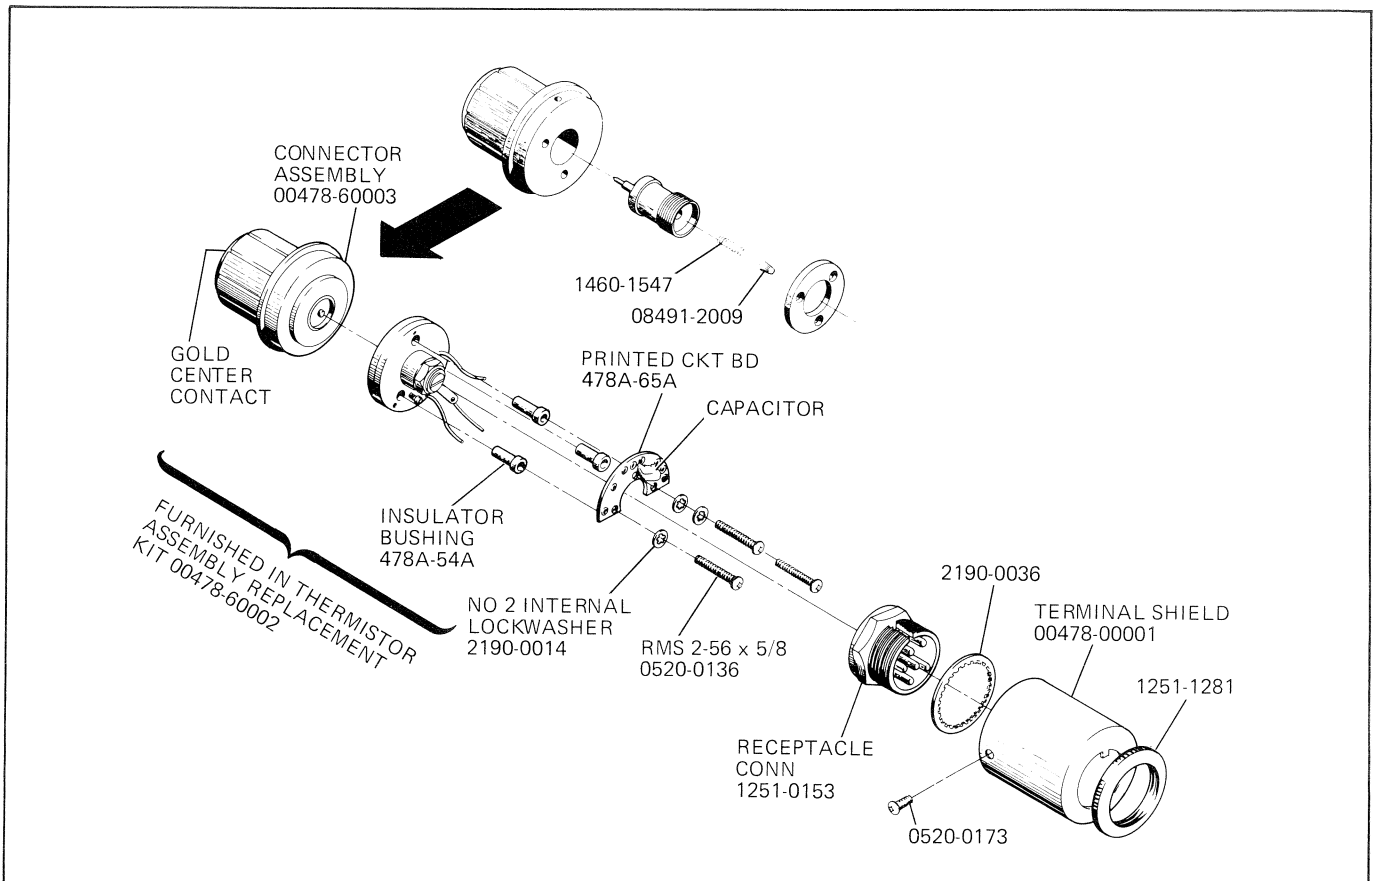
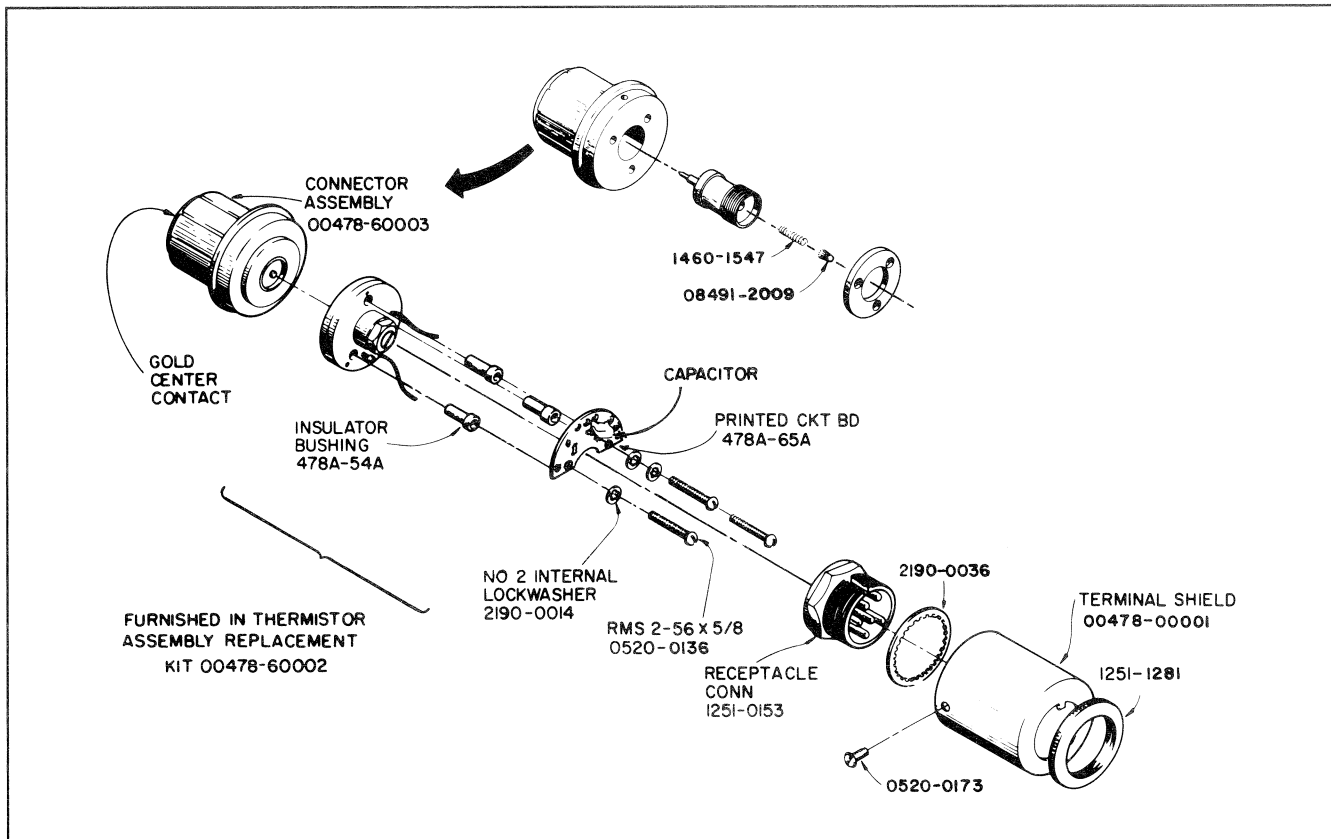

Figure 9. Model 478A Thermistor Mount Assembly
Figure A-8. Model 478A Thermistor Mount Assembly (P/O Change B)
- a. Remove three 2-56 x 3/16 screws holding terminal shield (Figure 9). Move terminal shield aside.
Page 9, Figure 9:
Replace Figure 9 with Figure A-8.